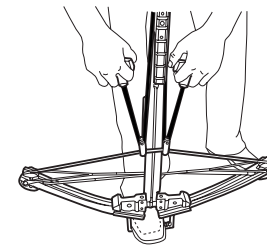

Figure 14
- 5.4 Pull both T-handles simultaneously (See Figure 14), smoothly drawing the bowstring back under the crossbolt retention spring and into the string opening in the trigger mechanism until you hear an audible click in the trigger housing and the safety is back in the “Safe” position (tension will keep cocking hooks against the flight rail if done properly). Your crossbow is now cocked, ready for loading. **Note:** Your crossbow is designed with a safety system that will automatically engage once the crossbow is cocked. Make sure